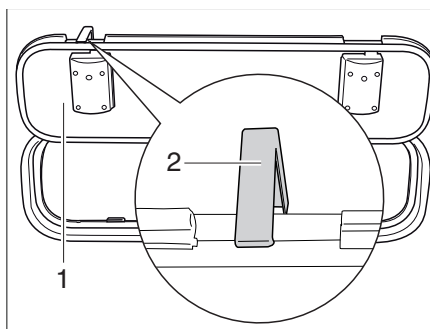

Fig. 54 Securing hook external flap
- Open the external flap (Fig. 54,1) and turn the securing hook (Fig. 54,2) upwards at the vehicle side.
- Press the securing hook (Fig. 54,2) upwards.